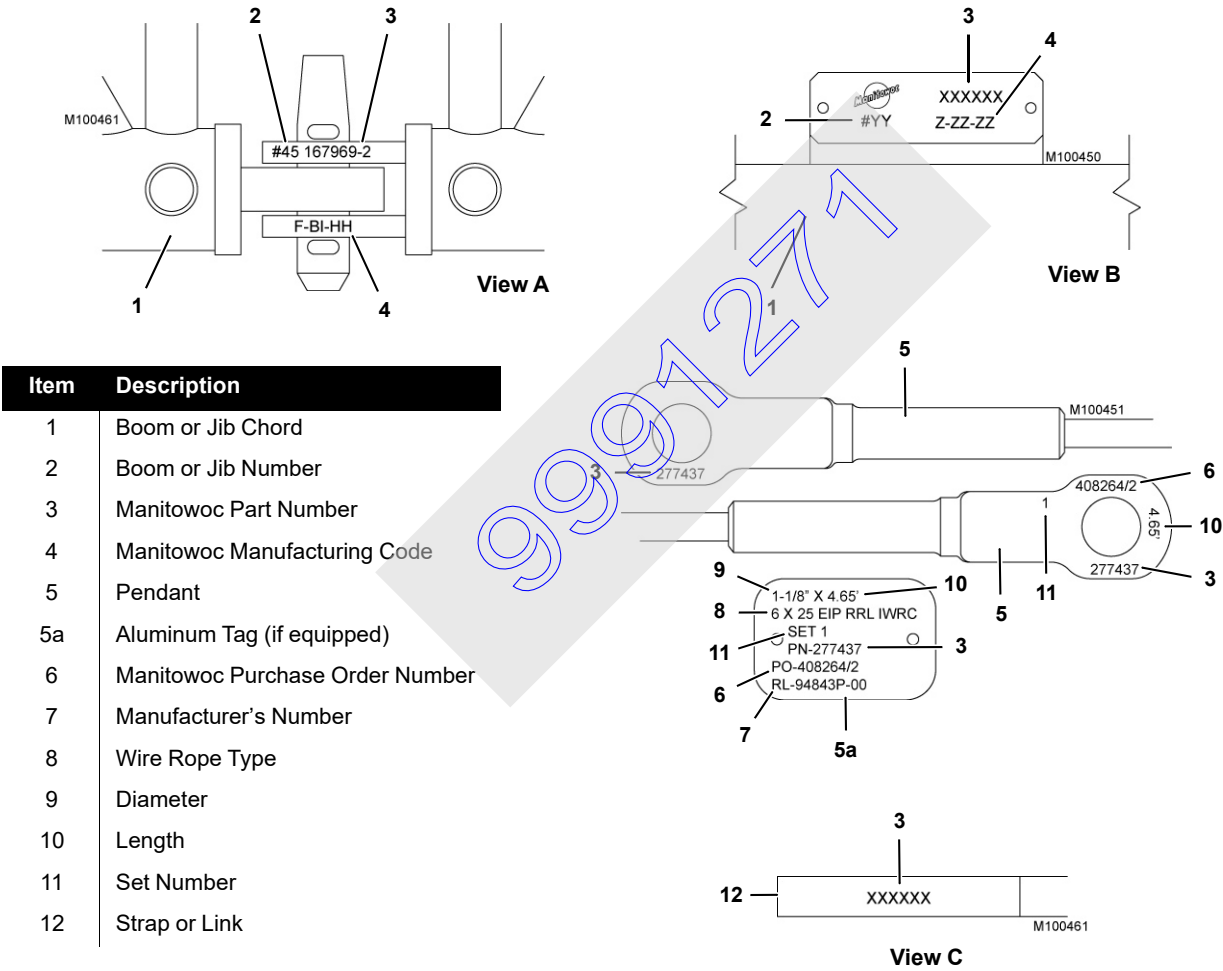

FIGURE 4-32
Boom and jib sections are marked for proper identification as shown in Views A and B, Figure 4-32.
Boom and jib pendants are marked for proper identification as shown in View C, Figure 4-32.
Boom straps and links are marked for proper identification as shown in View D, Figure 4-32.
**NOTE:** The markings shown in Figure 4-32 can vary depending on when your crane was produced and the original equipment manufacturer.